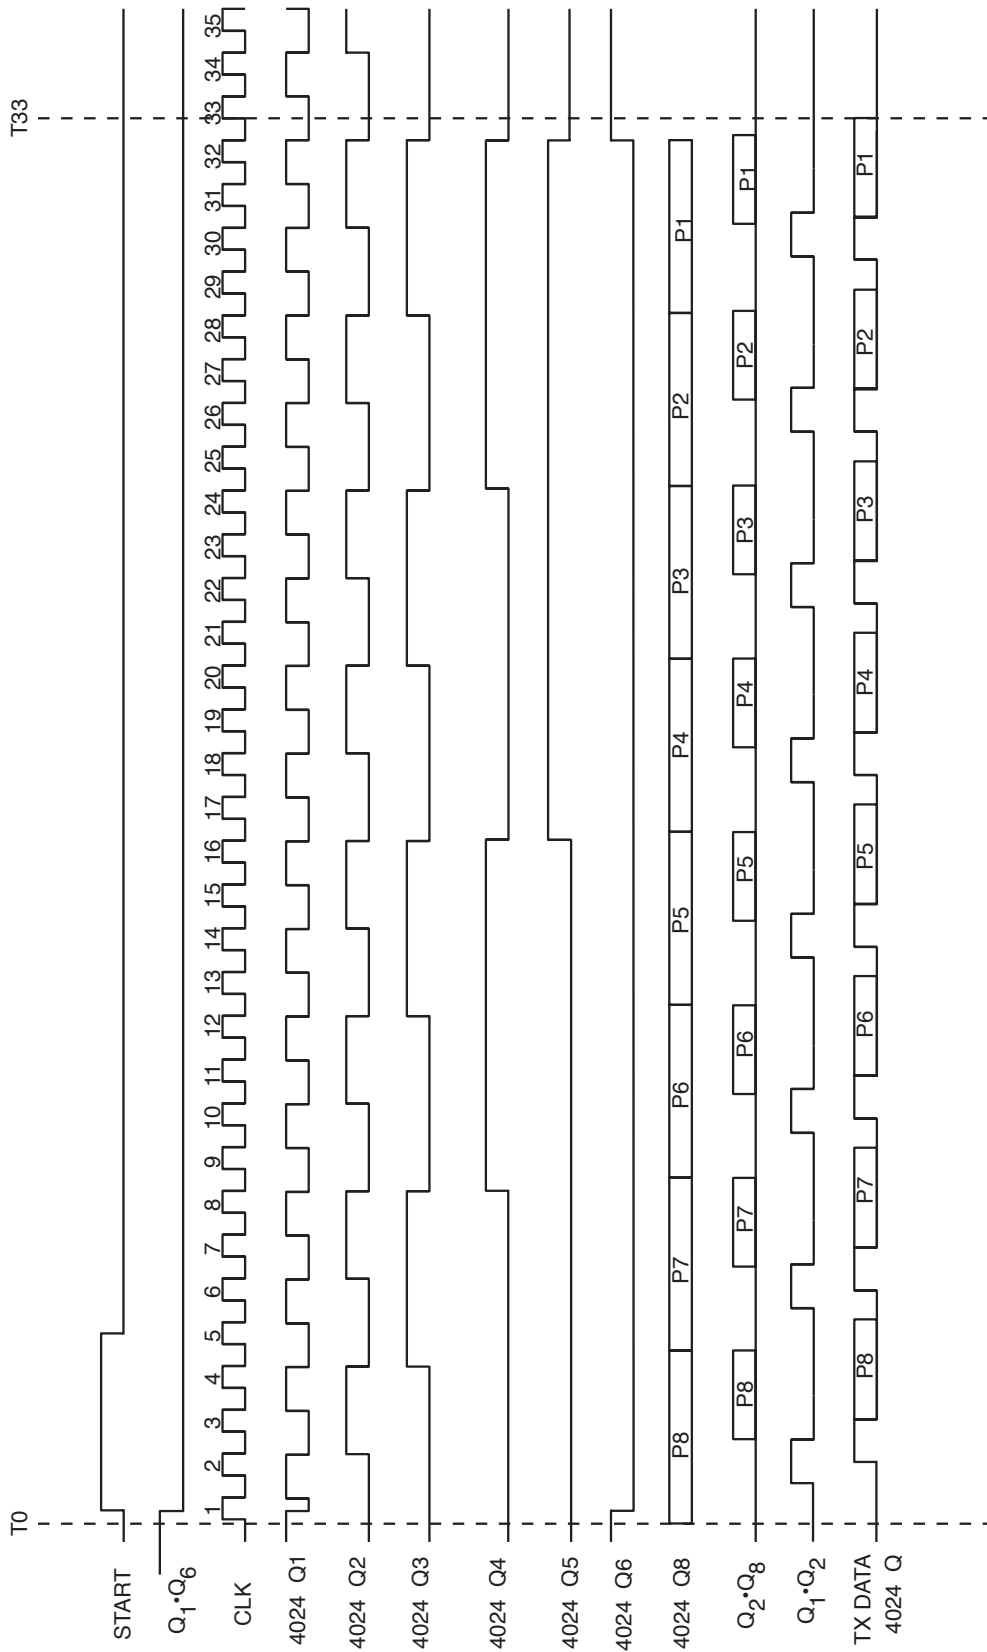

Figure 17-6. Timing Diagram -- Encoder Waveforms. (1609C27)
The 8-bit code generated for each test provides a “1” for 31.25 milliseconds and a “0” for 10.42 milliseconds, for each bit period. These time intervals are based on a clock frequency of 192 Hz. The 8-bit code is started by the “start transmit” pulse (167 milliseconds) generated on the Auxiliary Board (see Figure 17-28, upper left) and fed to the Main Board (via JMP1 pin 8). The “start transmit” pulse resets I40, a 7-bit ripple counter (see Figure 17-27, upper left), as the TX BUSY line goes low, and I37A pin 3 begins delivery of 96-Hz clock pulses to I40 pin 1. The transmit continues until thirty-three (33) clock pulses are counted. The Timing Diagram (see Figure 17-6) illustrates the important wave shapes in the transmitter.
A static 8-bit shift register (I41) is shown in Figure 17-27, upper left. The parallel data—five (5) address bits and three (3) data bits—are shown (see Figure 17-6) as P1 through P8 and are shifted out serially from I41 pin 3. After the eight (8) bits are transmitted, I41 pin 9 becomes logic “1”, and parallel data can be loaded into the register.